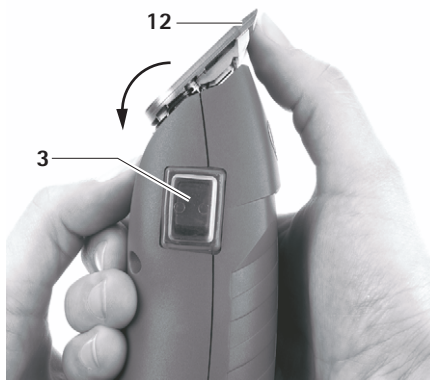

Fig. 5
- Press forward clipper blade 12, see Fig. 5.